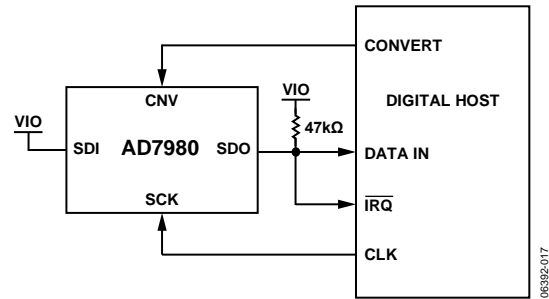
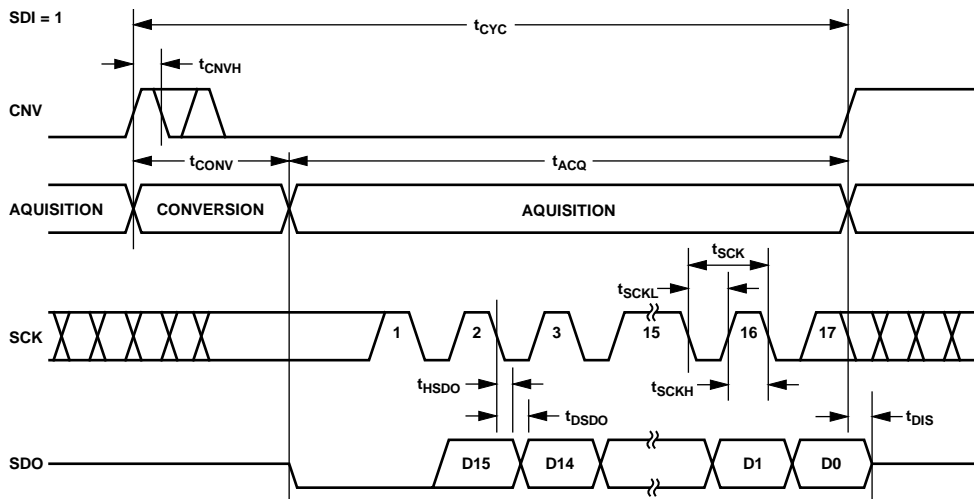
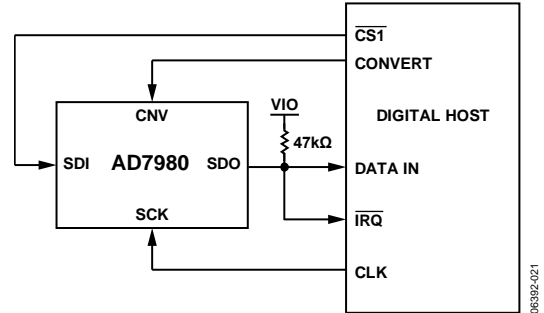
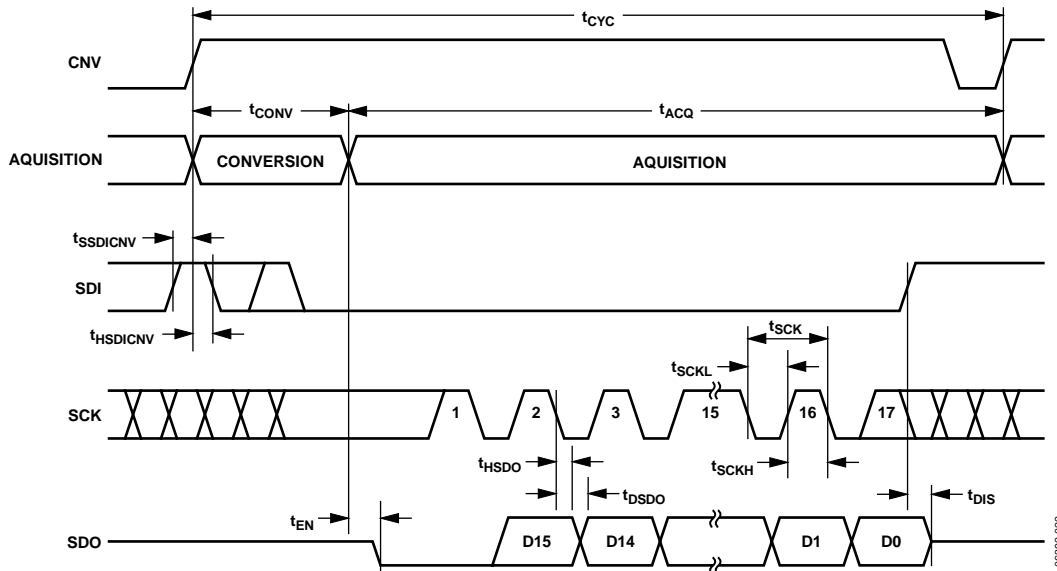

Figure 33. 3-Wire \overline{CS} Mode with Busy Indicator Connection Diagram (SDI High)
Figure 34. 3-Wire \overline{CS} Mode with Busy Indicator Serial Interface Timing (SDI High)
Figure 37. 4-Wire \overline{CS} Mode with Busy Indicator Connection Diagram
Figure 38. 4-Wire \overline{CS} Mode with Busy Indicator Serial Interface Timing
- In the $\overline{\text{CS}}$ mode if CNV or SDI is low when the ADC conversion ends (see Figure 34 and Figure 38).
The connection diagram is shown in Figure 33, and the corresponding timing is given in Figure 34.
The connection diagram is shown in Figure 37, and the corresponding timing is given in Figure 38.